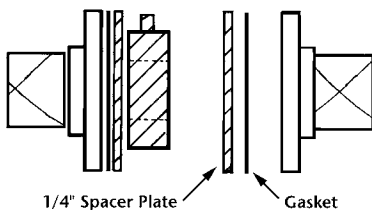

Figure 8.6
2) For lug and wafer valves that are lined or have integral seals, use a 1/4" steel spacer plate with an I.D. equal to Schedule 40 steel or as required by the valve manufacturer. (See Fig. 8.6).